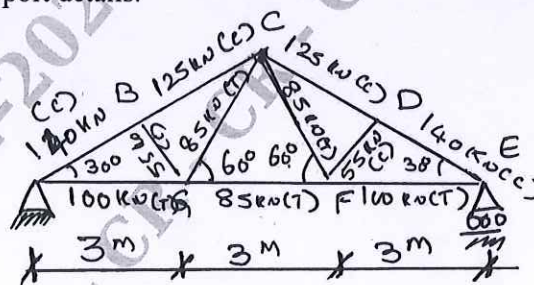

Fig.Q3
- 3 The centre line of a roof truss is as shown in Fig.Q3. The magnitude and nature of forces in each member under service load condition is shown against each member. Design the top chord member, bottom chord member and interior members. Design the truss using bolts of M16, properly class 4.6 for connections. Also design the bearing plate to support a reaction of 160 kN along with anchor bolts for a pull of 40 kN to connect the truss to a RCC column  $300 \times 300 \text{ mm}$  of  $M_{20}$  grade concrete. Show design details elevation of the truss greater than Span (half span) and support details.